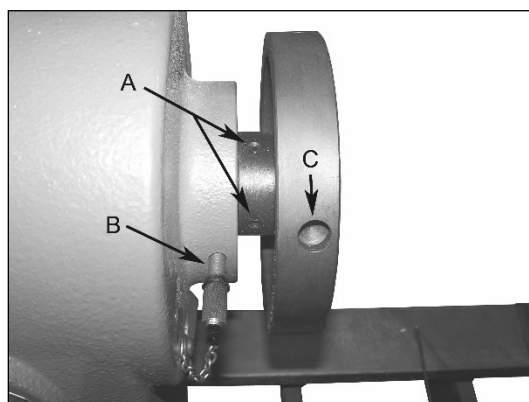

Figure 19
1. To remove the face plate first loosen the two set screws 'A' of Figure 19. Insert the indexing pin 'B' into one of the three holes and screw it in until it fully engages one of the indexing holes in the spindle. You may have to turn the face plate by hand until you can feel the pin engage the hole. The spindle should now be locked. The face plate can now be unscrewed counterclockwise off the spindle. If more leverage is needed insert the knock out rod into hole 'C'.